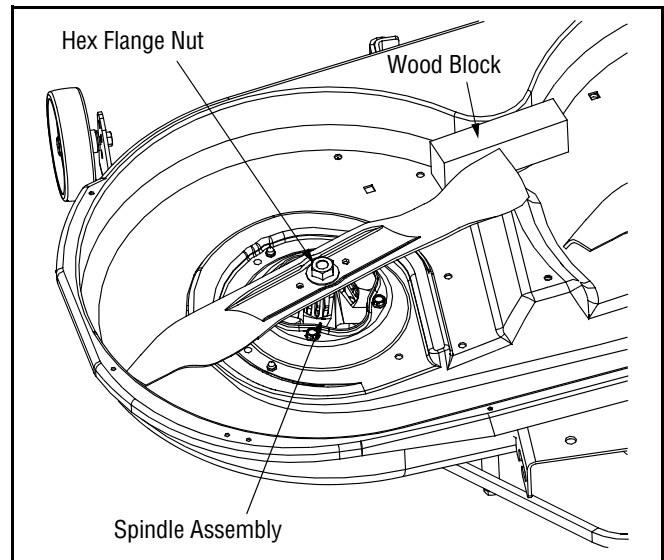

Figure 22
- Place a block of wood between the center deck housing baffle and the cutting blade to act as a stabilizer. See Figure 22.
- Use a 1-1/8" wrench to remove the hex flange nut that secures the blade to the spindle assembly. See Figure 22.